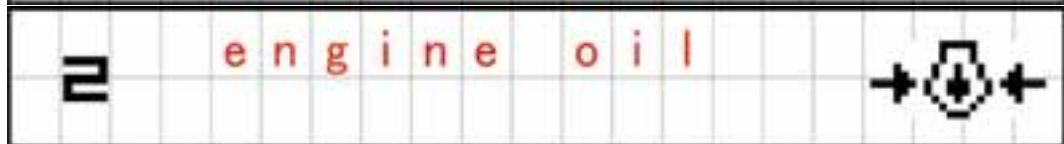

Fig. 5
- Charge (see fig. 5 on the right-hand side)